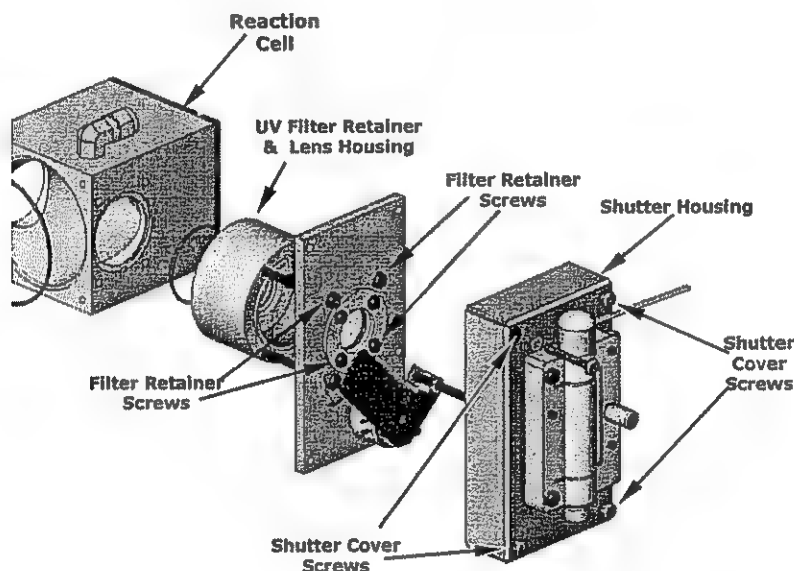

Figure 11-13: Disassembling the Shutter Assembly
3. Remove 4 screws from the shutter cover (see figure 11-13) and remove the cover .